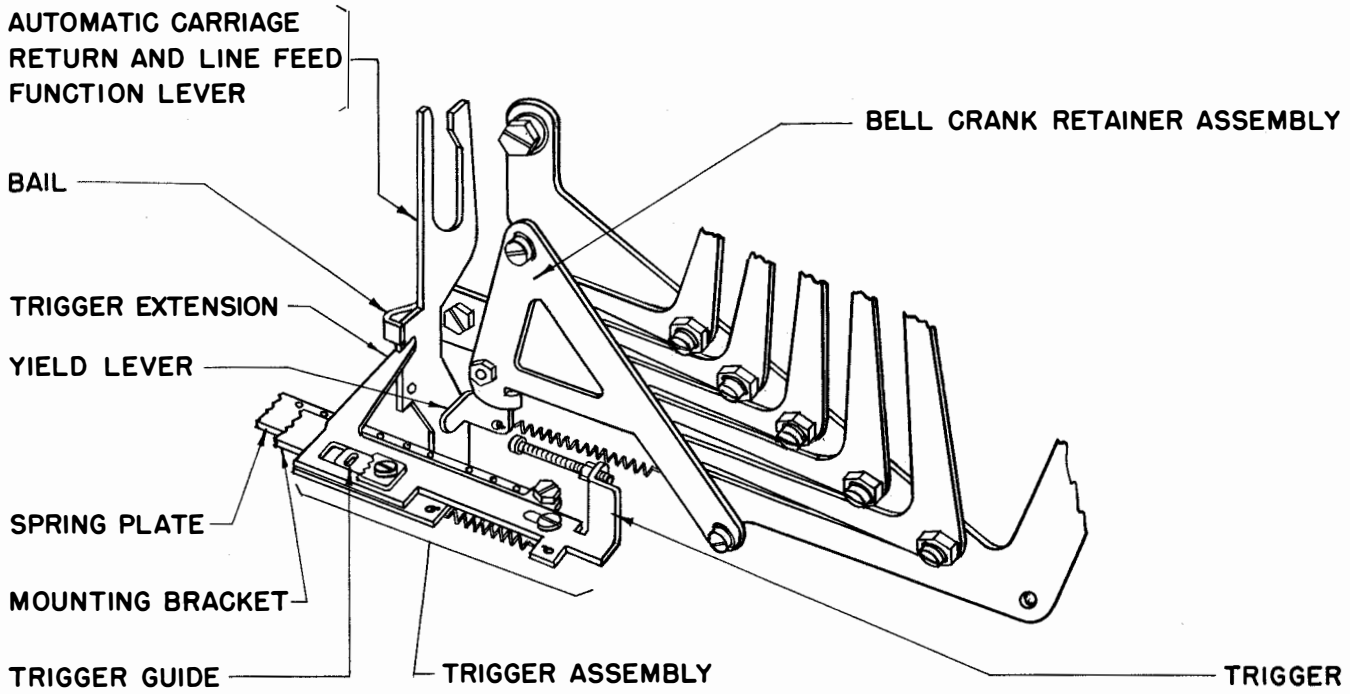
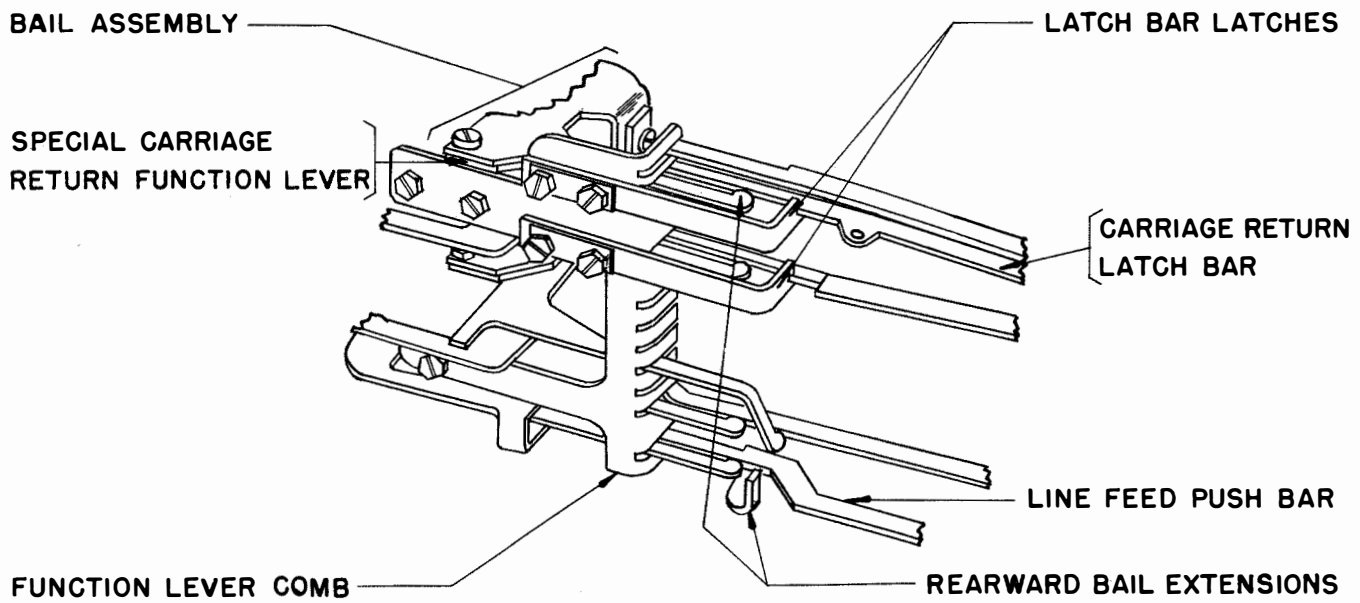

FIGURE 1
FIGURE 2
c. Automatic carriage return and line feed is accomplished by a bail assembly, a trigger assembly, and a bell crank retainer assembly (Figures 1 and 2). When the type bar carriage reaches the end of a line, a yield lever on the lower end of the bell crank retainer (Figure 1) engages a screw on the trigger of the trigger assembly thereby moving the trigger (along with its extension) to the right. When this occurs, the automatic carriage return and line feed function lever (Figure 1) of the bail assembly, normally blocked by the trigger extension, is unblocked. This function lever then moves forward and operates a bail, whose rearward extensions (Figure 2) move the carriage return latch bar and the line feed push bar into their selected positions.
a. Remove the type bar carriage from the typing unit. Install a handwheel on the right-hand end of the main shaft. Replace the present blocking bail with the 106038 or the 105381 blocking bail furnished with the set of parts. Remove the function lever comb and the latch-bar latches (Figure 2) as an assembly. Unhook, from the spring plate, the springs of the carriage return and line feed function levers and also the springs of the function levers that fit in slots 3 and 4 of the vane frame. Keep the springs in their proper order. Then remove these four function levers. Discard the carriage return function lever and the line feed function lever, but retain the other two function levers.
e. Remove the latch bar latches (Figure 2) from the function lever comb (removed per paragraph a) and mount them on the 74255 function lever comb furnished with the set of parts by means of the screws and lock washers just removed. Then install the new function lever comb assembly with the screws that formerly mounted the old function lever comb removed per paragraph a.
\*f. Remove and discard the 74415 guide bracket and 74059 screws. Disengage all function lever springs from the spring plate and then remove the two 6746 screws and the 2191 lock washers from the spring plate. Replace the two 6746 screws with the two 80342 screws furnished with the set of parts and then place on these screws two 2191 lock washers previously removed, and two 7002 washers furnished with the set of parts. Install the 107102 trigger assembly furnished with the set of parts immediately above the spring plate (Figure 1) and secure it with the two screws, washers, and lock washers that mount the spring plate. Rehook all function lever springs to the spring plate. Install the 88959 intermediate lever guide furnished with the set of parts in the position that was formerly occupied by the 74415 guide bracket. Use the two 6746 screws furnished with the set of parts and the two 2191 lock washers and the two 7002 washers (which were used to help mount the 74415 guide bracket) for this purpose.
g. Replace the type bar carriage and lock it in its extreme left-hand position. Remove and discard the present bell crank retainer and replace it with the 107103 bell crank retainer assembly (Figure 1). Make certain that the spacers which were just removed are reinstalled in their proper place and that the screws and lock washers just removed are used to mount the 107103 bell crank retainer assembly.